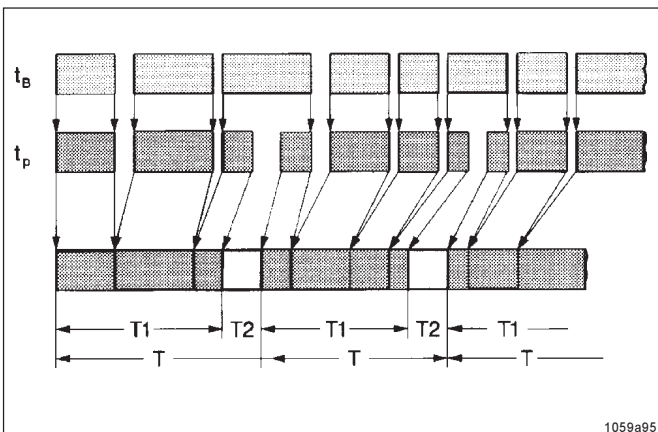

Fig. 10 - Time sequence diagram
- The printed circuit board automatically controls the sequence of the pause and operating times of the 203 central lubrication pump as a function of the vehicle or machine working hours  $t_B$  (Fig. 10).
- A lubrication cycle consists of one pause time and one operating time. Once the pause time has elapsed, the operating time starts to run. This lubrication cycle is repeated permanently after the machine or vehicle has been put into operation. Refer to Fig. 10.